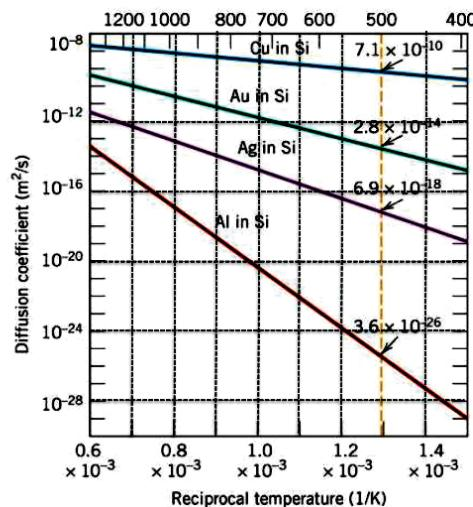

Figure 3: Diffusion coefficient versus temperature plot of some metals diffusing into Si
- (c). Figure 3 shows the relation of some metals diffusing into other metals changes with temperature. Answer the following questions :